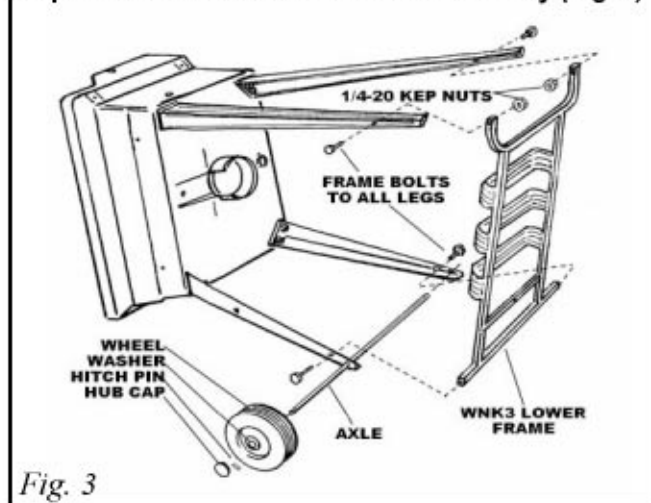
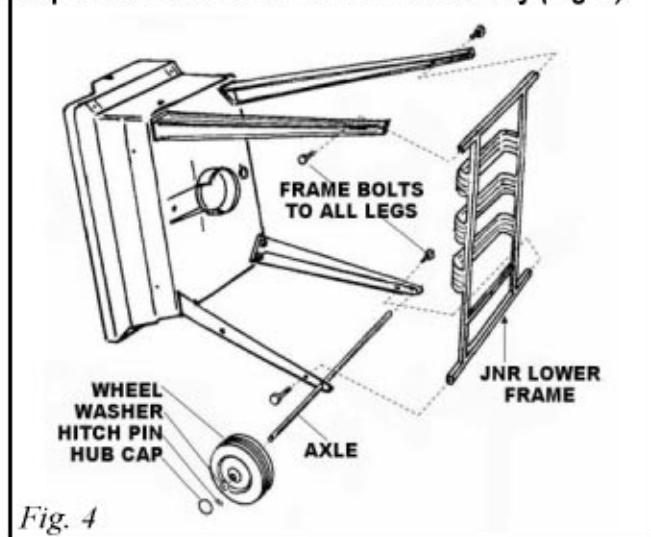

Fig. 3
Fig. 4
1. Bolt shelf to the (4) legs as follow:
- (A) WCP and WCN (Fig. 3) carts uses (2) 1/4-20x 1-1/2" slotted bolts and Kep nuts to fasten the frame to the long legs and (2) 1/4-20x3/4" slotted head bolts to fasten the frame to the short legs.
- (B) JCP and JCN (Fig. 4) carts use (4) 1/4-20x 3/4" slotted head bolts to fasten the frame at all 4 corners.
2. Install (1) axle hitch pin into the small end hole and install washer. Slide (1) wheel onto axle, hub-cap side out.
**Step 3: WCP3/WCN3 Lower Shelf Assembly (Fig. 3)**
**Step 3: JCP3/JCN3 Lower Shelf Assembly (Fig. 4)**